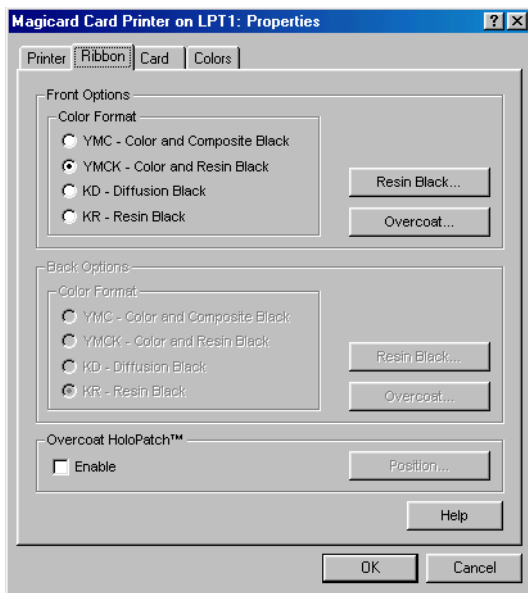

Figure 7: Printer Configuration Options – Ribbon Tab
- Click on the Ribbon Tab and a window with printer ribbon options appears (see Figure 7).